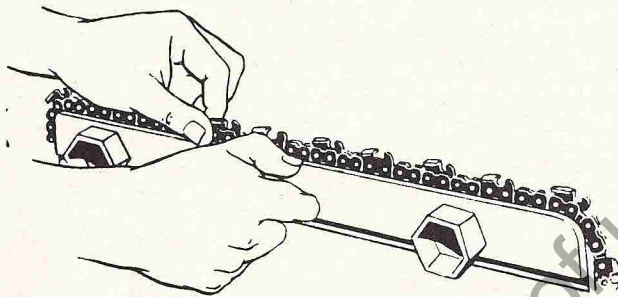

Fig. 5—Typical filing vise for saw chain.
**SAW CHAIN SHARPENING.** Most chain saw operating complaints are caused by improper sharpening. One of the most important maintenance operations for trouble-free sawing is properly filing the saw chain. For best results, the chain should be removed from the saw and placed in a filing vise for sharpening. (See Fig. 5.) If a vise is not available, the chain can be sharpened on the guide bar.